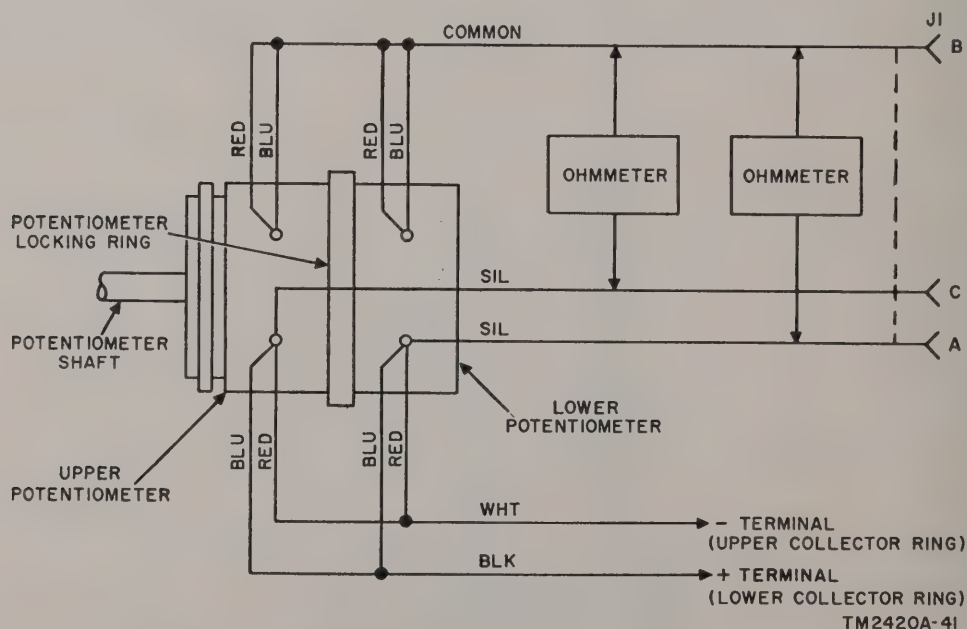

Figure 38. Sine-cosine potentiometer, phasing diagram.
c. Arrange an ohmmeter to indicate on the Rx1 range and connect it between the silver wire and the common wire on the upper potentiometer (fig. 38).
g. Connect the new potentiometer wiring (fig. 38) to the wiring in the vertical support housing and vertical shaft.